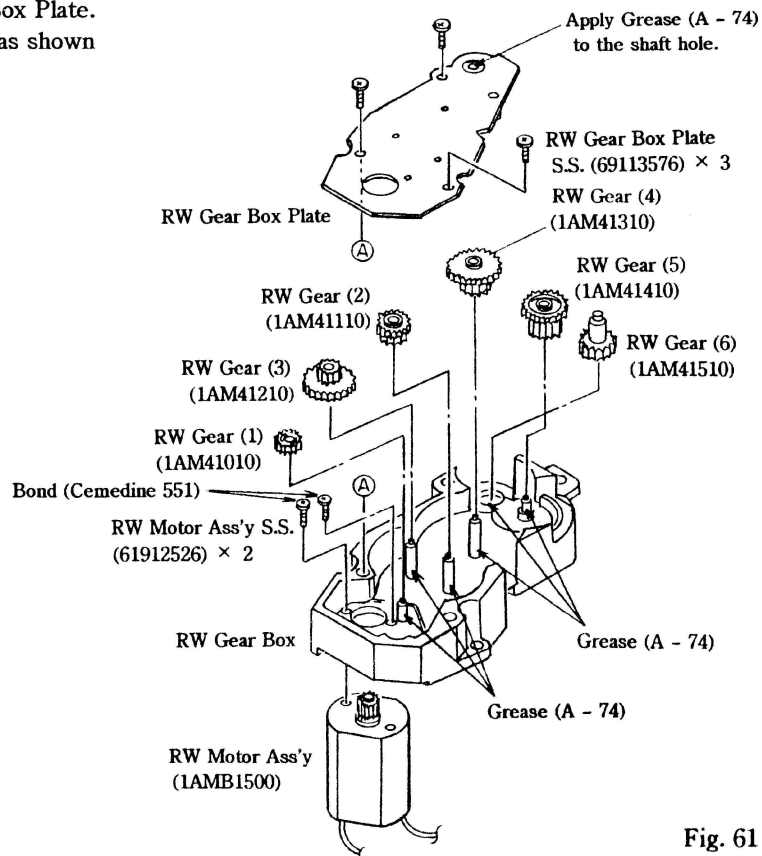

Fig. 61
- 2) Disassemble the Ass'y as shown in Fig. 61.